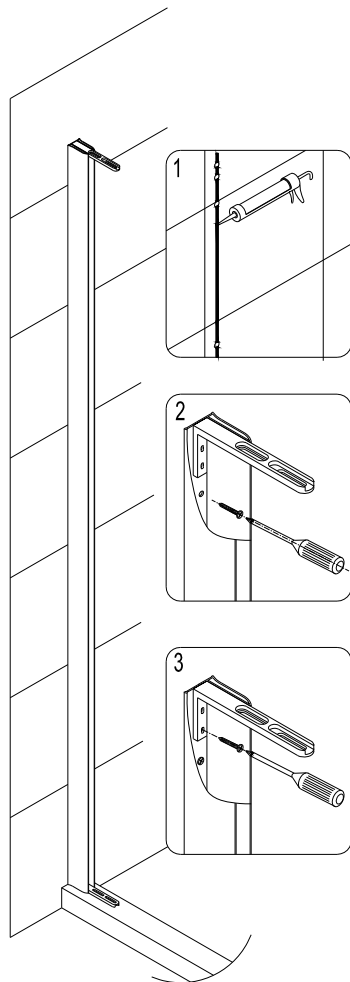

Fig 3
3. Apply silicone sealant along the holes on the wall. Attach the **Wall profile for stationary glass (1)** to the wall using **Round head screws ST4.2×30 (18)**. See Fig 3 for details.